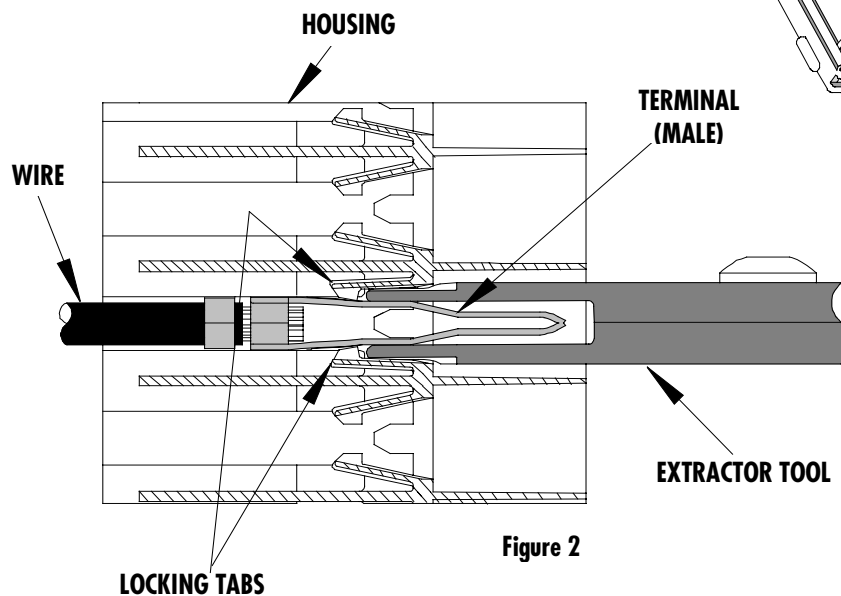

Figure 2
4. Continue to insert the tool until tabs on the sides of the housing are pushed aside (tool bottoms). Male terminal is shown in Figure 2, the alignment for the female is the same.